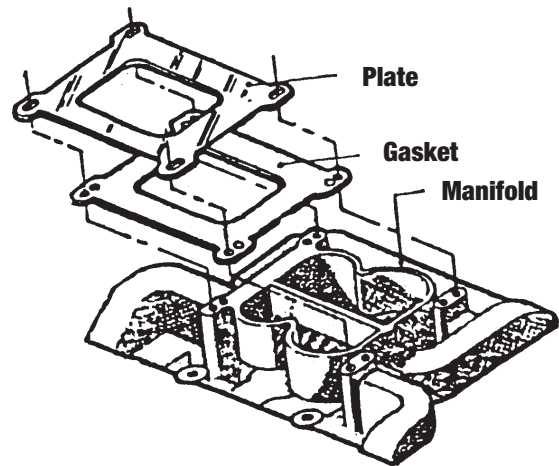

Figure 2 - Square-Bore Carburetor Adapter Plate
- **CARBURETOR PLATES AND GASKETS:** For square-bore carburetor installations on intake manifolds #2176 and 3776, you must install the supplied carburetor plate and gasket to seal the carburetor base (See Figure 2).